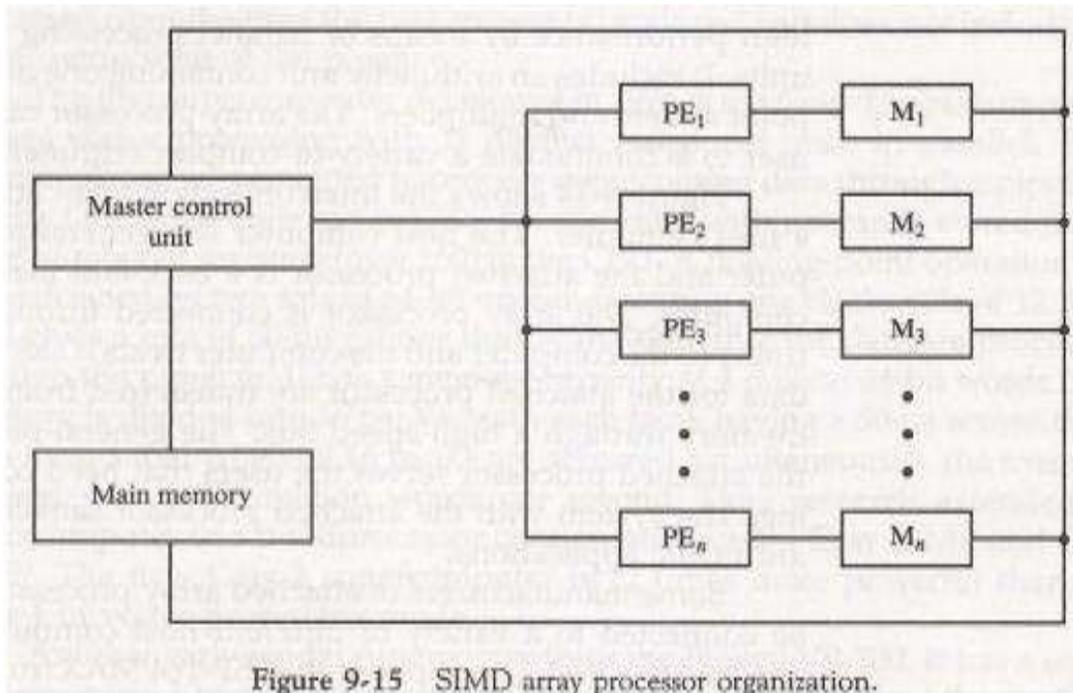

Figure 9-15 SIMD array processor organization.
- A general block diagram of an array processor is shown in Fig. 9-15.